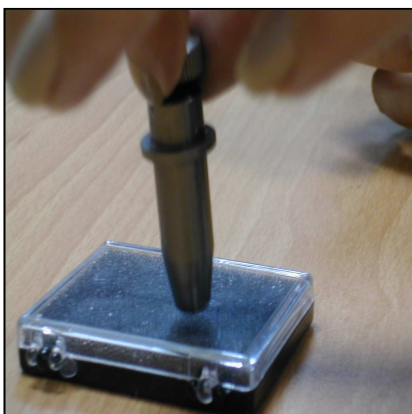

Figure 2-13
2. Push the blade to the bottom of the blade holder. (Figure 2-13)